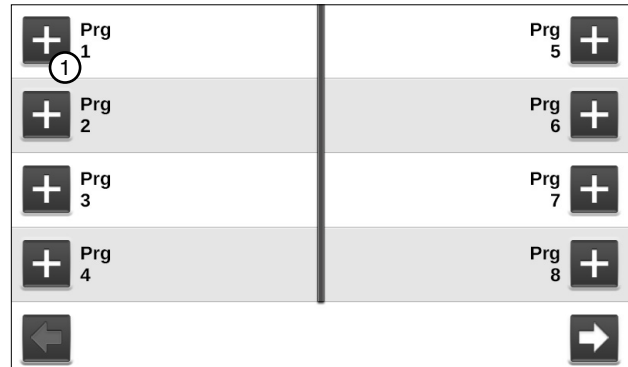

Figure 107-2 Step Programs Screen
2. Push the **New Program** button corresponding to the preferred program number as shown in Figure 107-2.